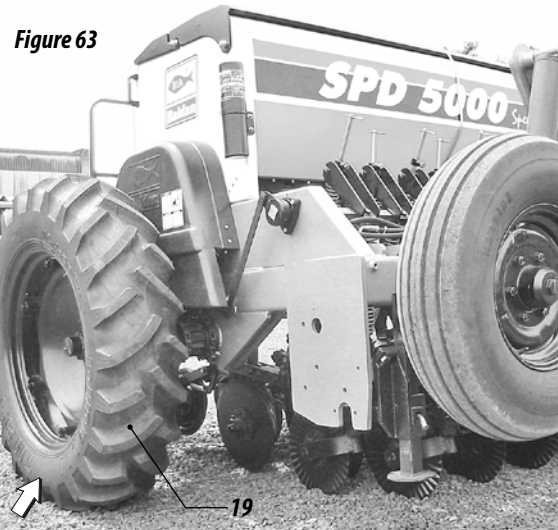

Figure 63
11- To lower the seed drill operate the wheelsets (19), (switch #2 of the panel), figure 63.